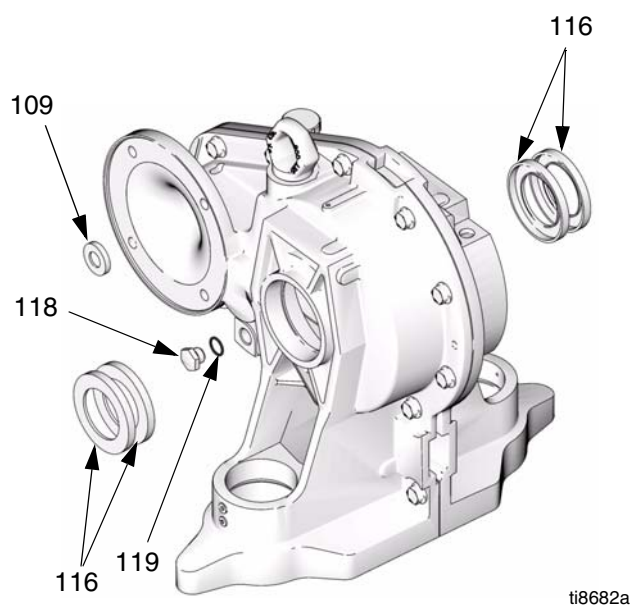

FIG. 19. Gear Reducer Seals
5. Remove four screws (12) and both covers (21, 32).
6. See FIG. 19. On the motor side of the gear reducer, unscrew the oil drain plug (118) and remove the gasket (119). Pierce the input seal (109) with a hardened sheet metal screw and pull it out.